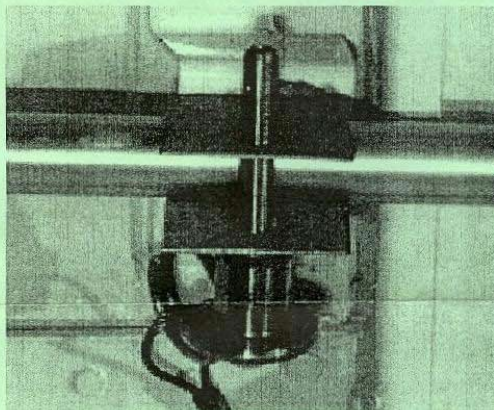

Figure 4. Secondary Lock Pin Correctly Installed as seen when the core cowl is in the open position
2. The stay support strut/rod secondary lock pin is correctly oriented as seen in figure 4;
Note that the secondary lock pin will be inversed (pin pointing up) as seen in figure 4 when the core cowl is open, as normally seen during maintenance activities but will be positioned (pin pointing down), with the core cowl in the closed position. The AMM has been corrected, which was in error prior to TR 71-137, to stipulate this important pin configuration.